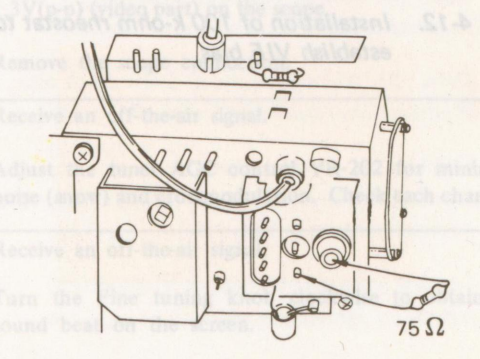

Fig. 4-11. Tuner termination
2. Terminate the rf terminal of the tuner with 75 ohms. See Fig. 4-11.